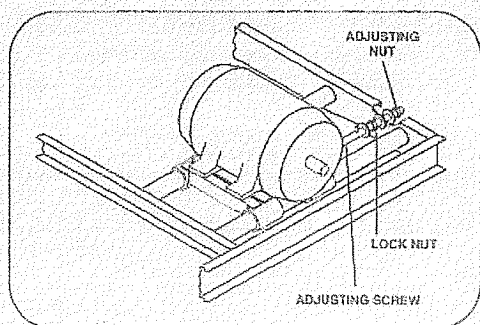

Figure 6 - Adjustable Motor Base
- Prior to seasonal start-up, lubricate the motor base adjusting screws (see Figure 6 on Page N55) and the fan shaft bearings. At initial start-up, no bearing lubrication is required since the bearings are factory lubricated prior to shipment.
Coat the motor base slides and adjusting screws (see Figure 6) every 3 months using good quality corrosion inhibiting grease such as one recommended for lubricating the fan shaft bearings.